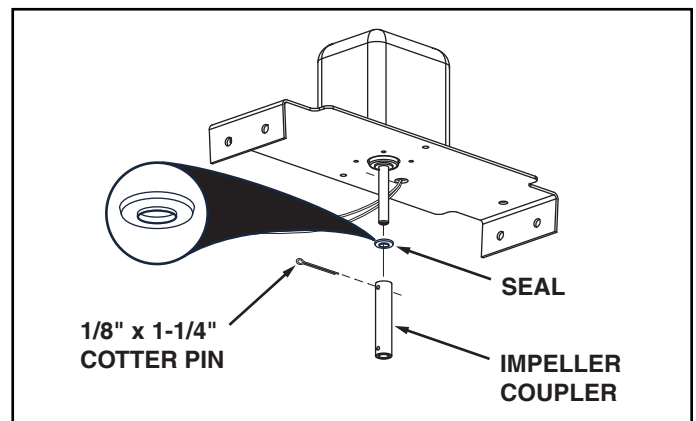

FIGURE 4
- 7. Assemble a seal (turned as shown in figure 4) onto the motor shaft. Slide it up against the motor.
- 8. Assemble the impeller coupler onto the motor shaft and secure it with a 1/8" x 1-1/4" cotter pin. Spread the ends of the pin around the coupler. See figure 4.